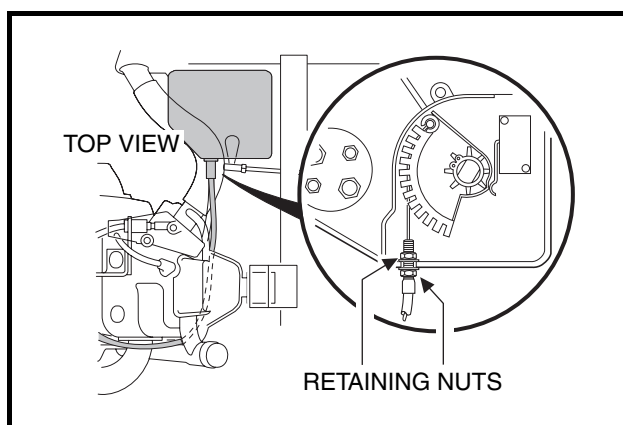

Figure 16-48 Connect Cable to Cam
25. Connect accelerator cable to actuator cam in the electrical box. Position the accelerator cable in the mounting slot in the wall of the electrical box and tighten mounting nuts to 18 in-lb (2.0 N·m) **(Figure 16-48, Page 16-19)**. Install electrical box cover and tighten mounting screw.